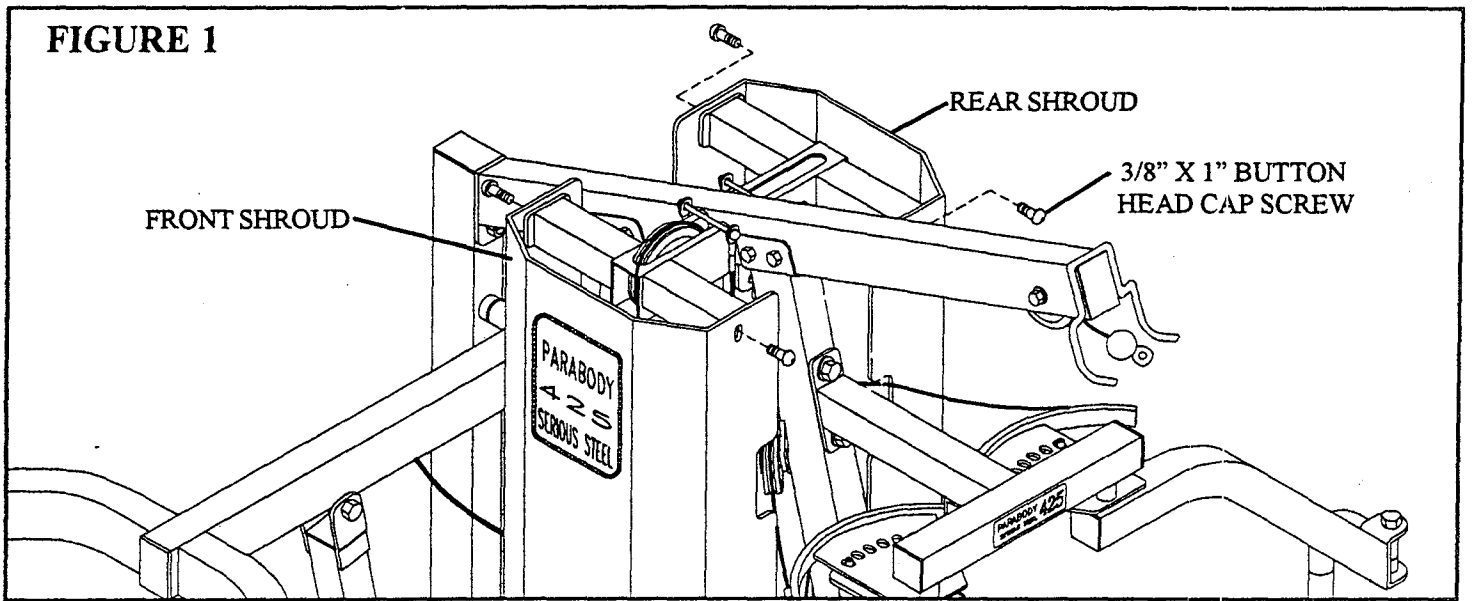

FIGURE 1
- REMOVE the four 3/8" X 1" BUTTON HEAD CAP SCREWS from the top of the front SHROUD & rear SHROUD. See FIGURE 1.